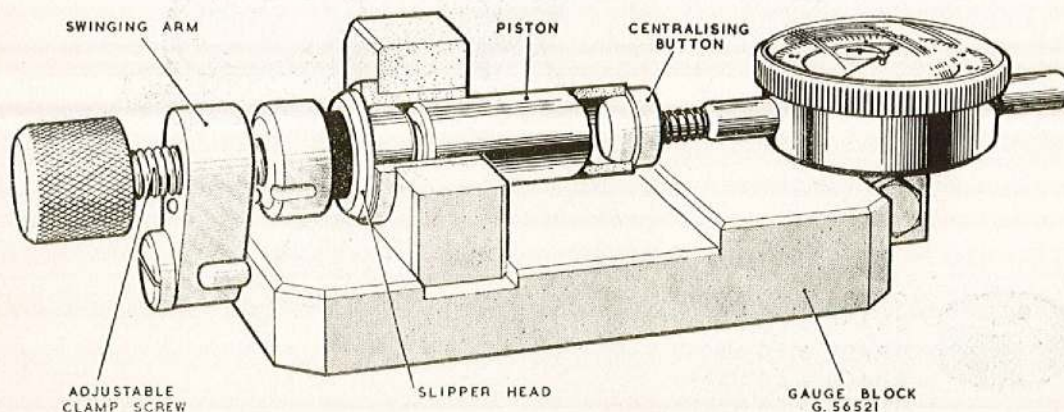

Fig. 16. Checking the slipper piston clearance
63. Wipe each piston with clean muslin and place each one in turn on a sheet of clean, white paper when any tendency to surface corrosion or discolouration will be more readily discerned. Examine the spherical face of the piston slipper which makes contact with the camplate and ensure that the plating is intact and is not severely scored. Ascertain that the hole in the slipper pad is free from obstruction. Check the float of the slipper on the piston by using the gauge G.56521 as shown in *fig. 16*.